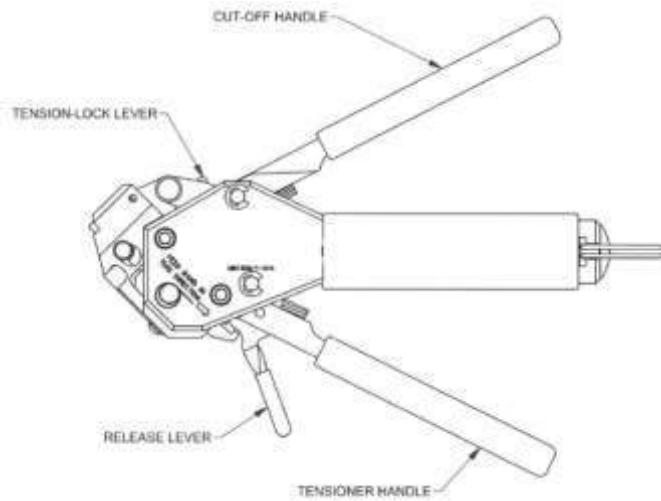

Figure 26
(28) Secure braid to backshell using band clamp and tool (Figure 26) specified in the Tooling and Parts lists in the front of this section and band clamp as specified in Section 7 - Wiring Harness Parts List, as follows: